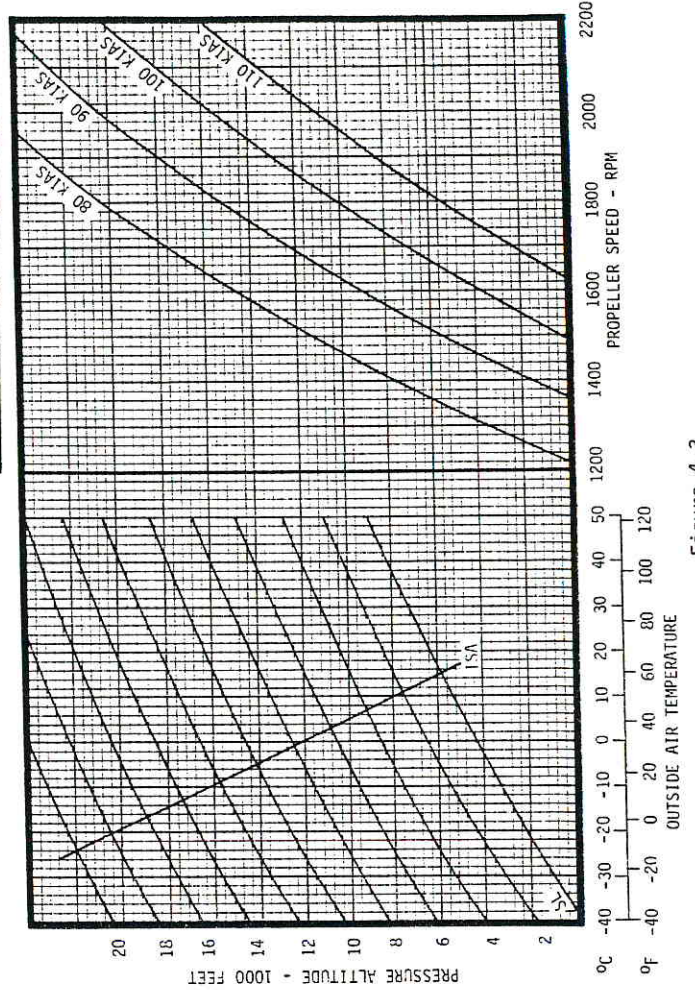

Figure 4-3
Single-engine procedures should be practiced in anticipation of an emergency. This practice should be conducted at a safe altitude, with full power operation on both engines, and should be started at a safe speed of at least 115 KIAS. As recovery ability is gained with practice, the starting speed may be lowered in small increments until the feel of the airplane in emergency conditions is well known. It should be noted that as the speed is reduced, directional control becomes more difficult. Emphasis should be placed on stopping the initial large yaw angles by the IMMEDIATE application of rudder supplemented by banking slightly away from the yaw. Practice should be continued until: (1) an instinctive corrective reaction is developed and the corrective procedure is automatic and, (2) airspeed, altitude, and heading can be maintained easily while the airplane is being prepared for a climb. In order to simulate an engine failure, set both engines at full power operation; then at a chosen speed, pull the throttle control of one engine to idle, and proceed with single-engine emergency procedures. Simulated single-engine flight characteristics can be practiced by setting propeller RPM to simulate a critical engine inoperative condition as shown in Figure 4-3.